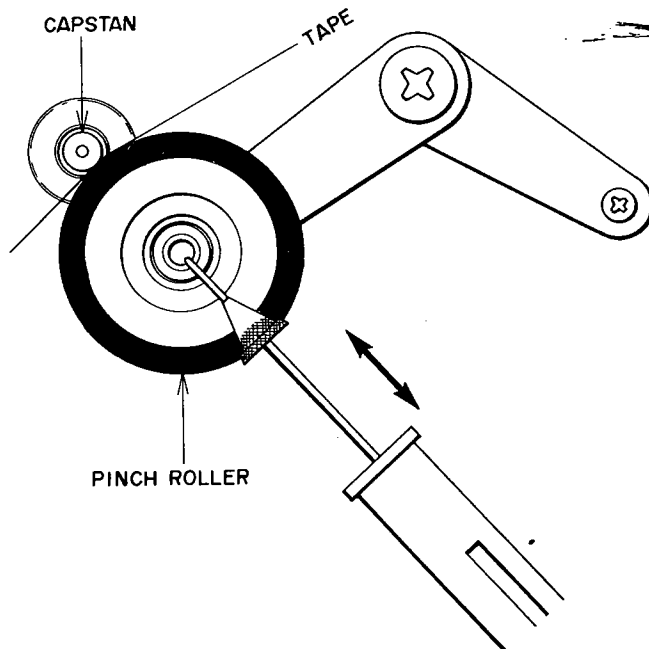

Fig. 8
(See Fig. 8)
- 1) As shown in Fig. 8, measure pinch wheel pressure with a spring gauge by pulling the pinch wheel away from the capstan and then returning. Take a reading of the spring gauge indication at the time the pinch wheel contacts the capstan. Correct pinch wheel pressure at this time is within 1,150 to 1,200 gr.